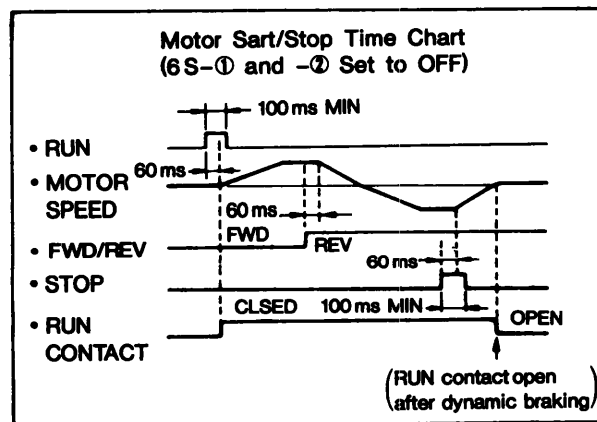

Fig. 14 Run and Stop Time Chart
Fig. 14 shows the run-stop time chart when notches ① and ② of operation mode setting switch 6S are set to OFF.